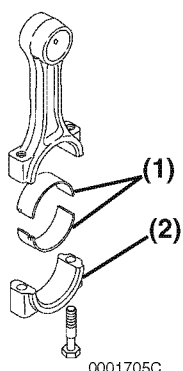

Figure 6-79
4. Install the connecting rod bearing halves (Figure 6-79, (1)) and connecting rod cap (Figure 6-79, (2)). Tighten the connecting rod bolts to the specified torque.